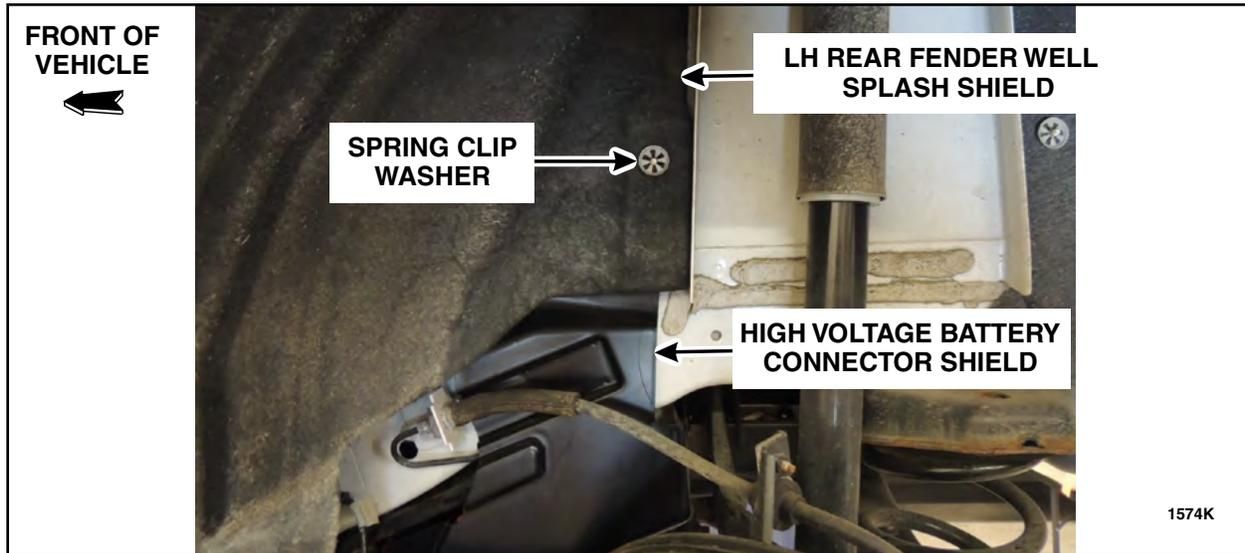

FIGURE 12
6. Install the LH rear fender well splash shield spring clip washer. See Figure 12.